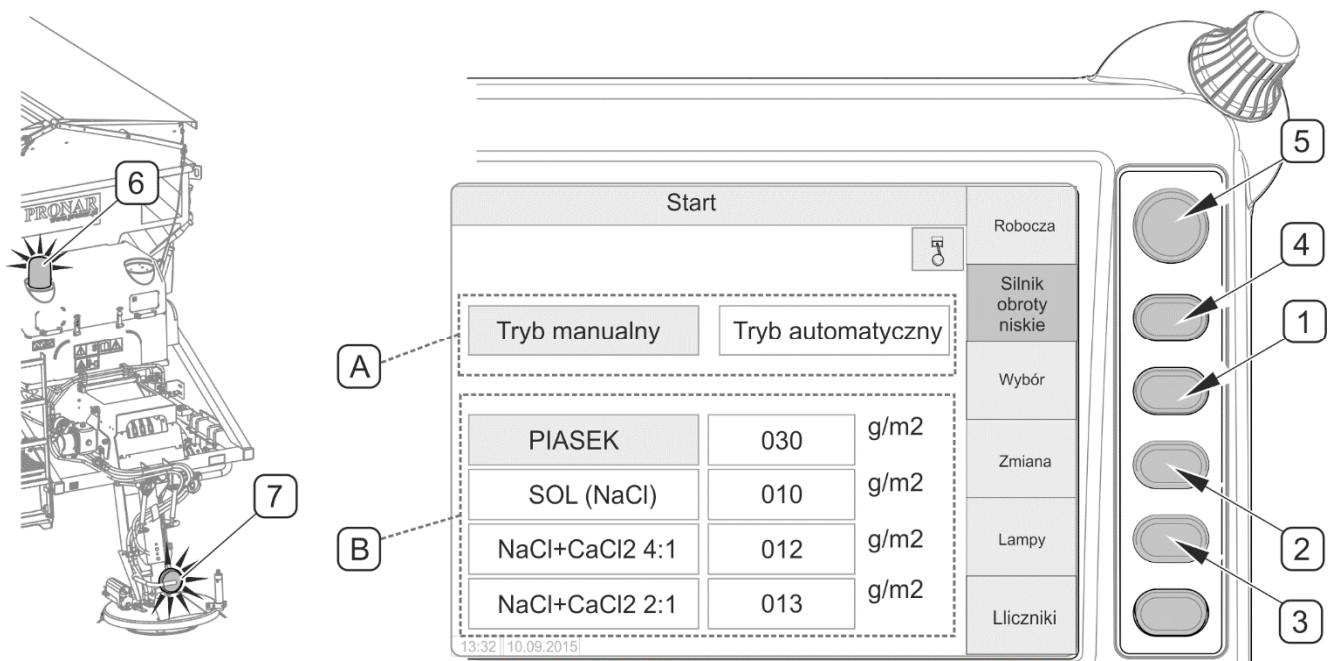

FIGURE 4.24 Activating individual functions on control panel home page
Mark mode selection field (A) on "START" home page of the control panel (FIGURE 4.24) by means of push-button (1) "Selection". Select "Manual mode" by means of push-button (2) "Change". Move to field (B) by means of push-button (1) „Selection” and select the type of material to be spread. By means of „Change” push-button, select the type of material to be spread that is currently in the tank. By means of push-button (3), turn on warning lamp (6) at the rear of the machine and lamp (7) near the spreading disc. Wait for several minutes and switch the engine to high speed by means of push-button (4) and move to working page "Operation" by means of push-button (5).